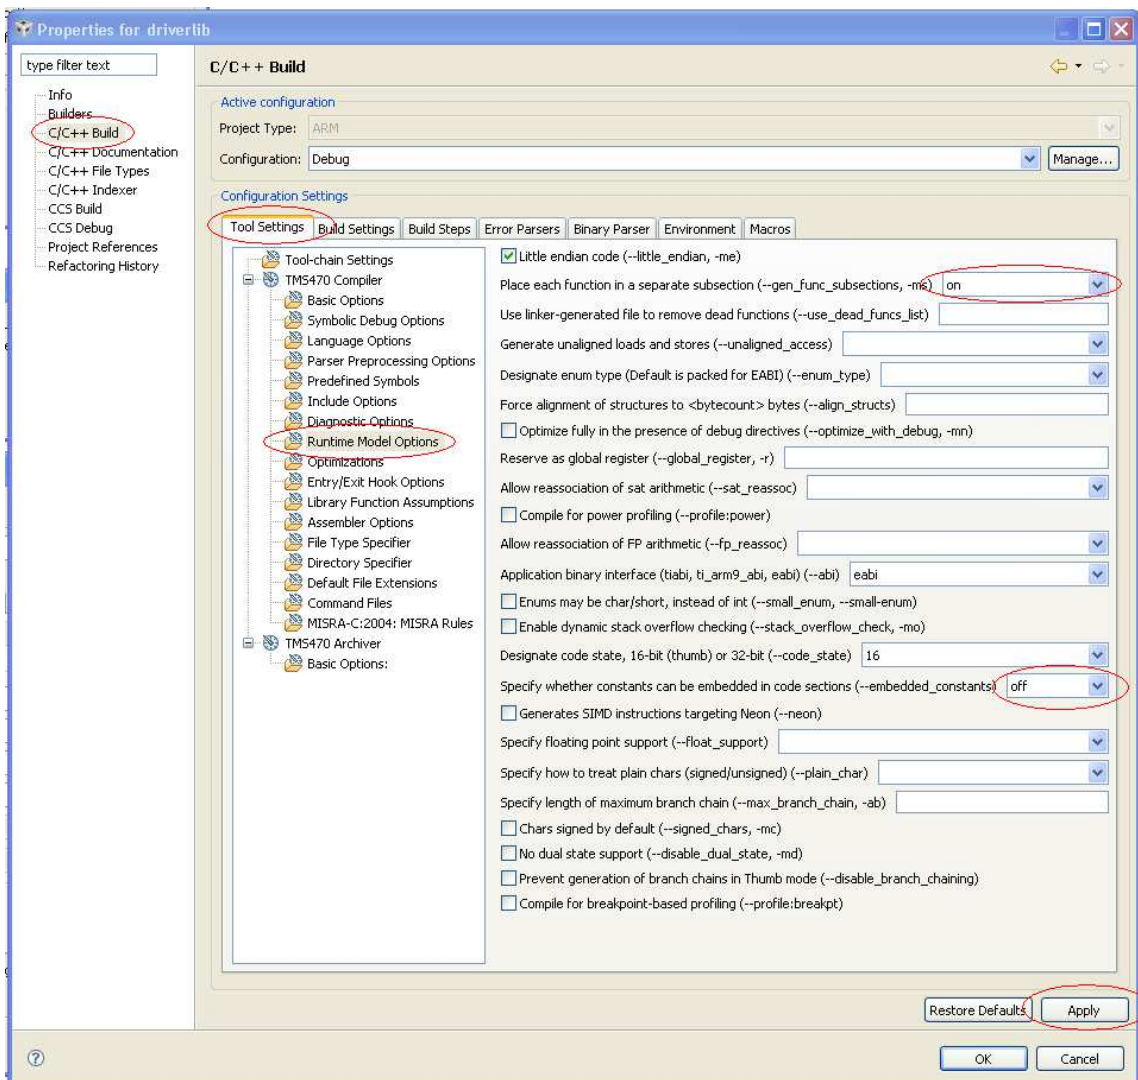

Figure 27. Properties for driverlib (C, C++ Build)
8. Select C/C++ Build under the Tool Settings tab → select Runtime Model Options in the TMS470 Compiler field. Select options (on and off) as shown in red circles in Figure 27 and click on the Apply button.